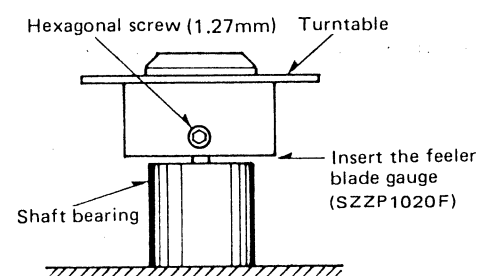

Fig 4-9. Front view of traverse deck
2. Insert the thin end of FEELER BLADE GAUGE (SZZP1020F) between the turntable and the shaft bearing as shown in figure 4-9.